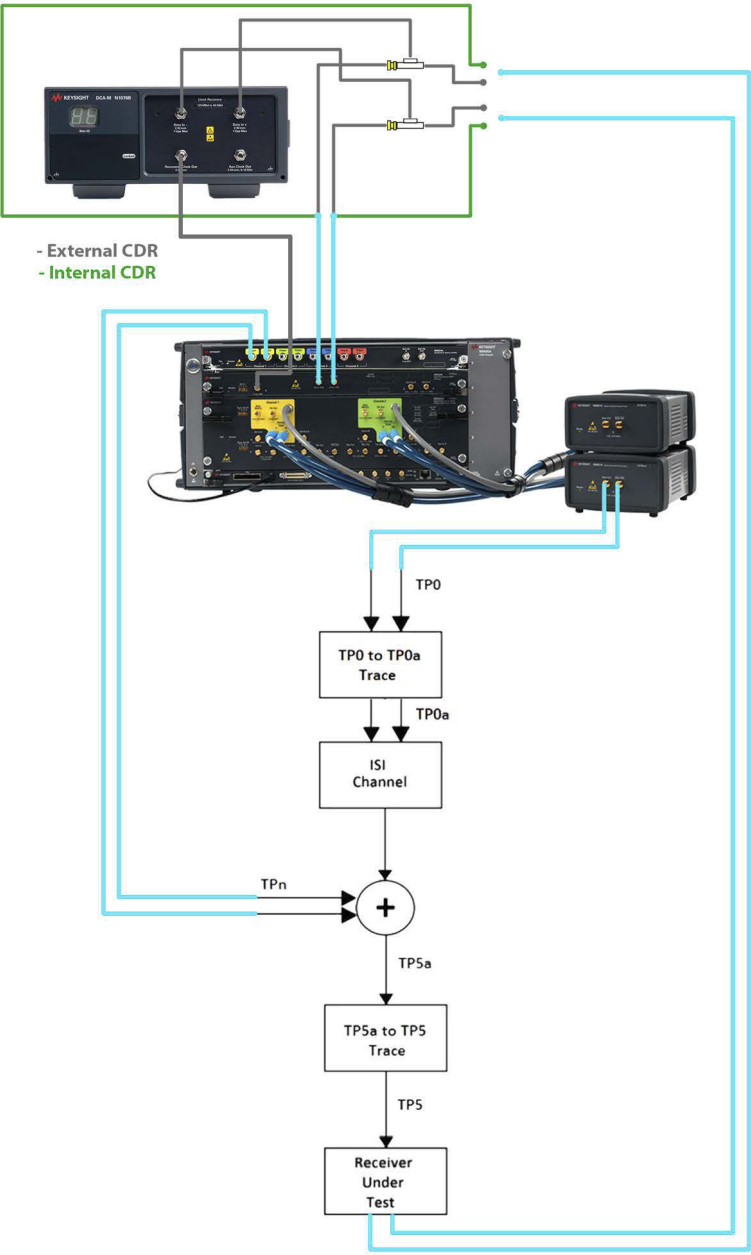
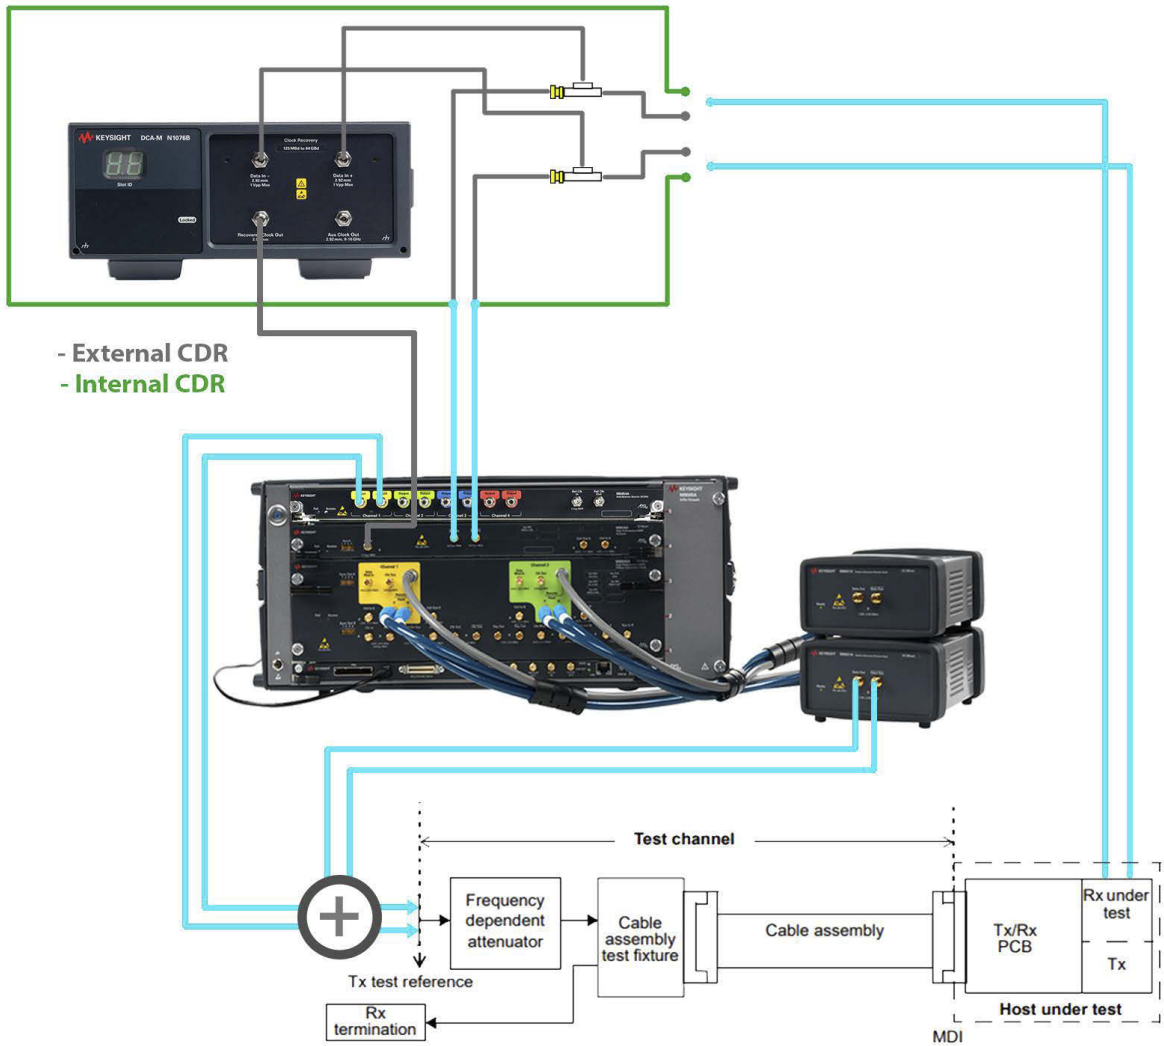

Figure 111 Rx Interference Tolerance Test connections for C2C and KR (M8040A)
Figure 112 Rx Interference Tolerance Test connections for CR (M8040A)
Connection Diagram Connect the instruments as shown in Figure 111 (C2C and KR) and Figure 112 (CR).
For CR: Connect the instruments as for Receiver Interference Tolerance Test (Figure 111 on page 146).
Connection Diagram Connect the instruments as shown in Figure 111.